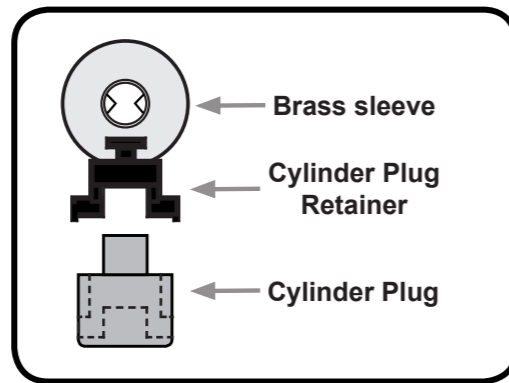

Fig.18
5. When fitting the cylinder plug and retainer to the new cylinder, place the **cylinder plug retainer** in first and rest it on the 2 notches on the **brass sleeve**. When in place, the **cylinder plug** can be pushed into the hole in the brass sleeve as per Fig.18.